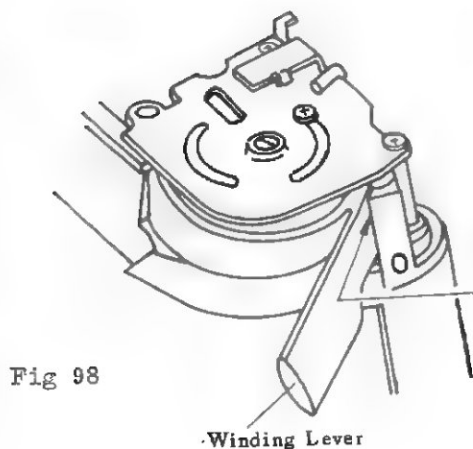

Fig 98
- (1) Winding Lever is touching the camera body as shown in (Fig 98).